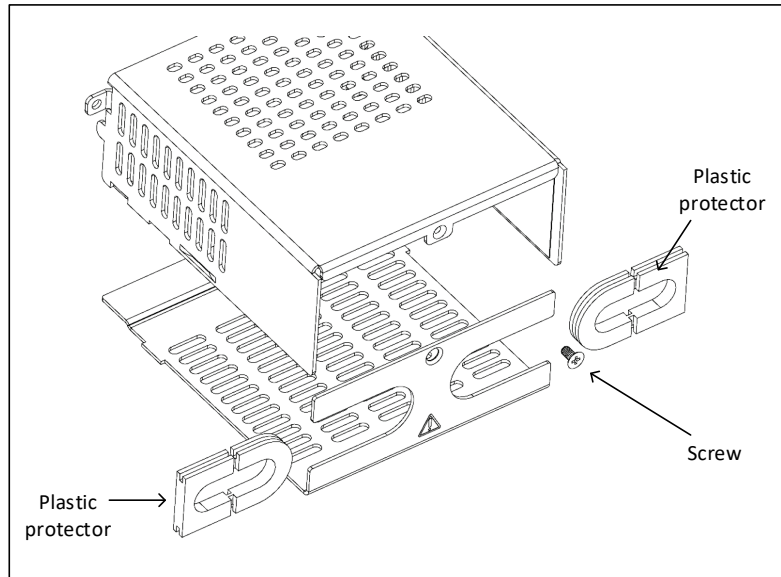

Figure 4-14: Disassembly of Output Protection
3. Open the output protection assembly (supplied in the accessories kit) by unscrewing the screw in the rear side as shown in Figure 4-14. Remove both plastic protectors.